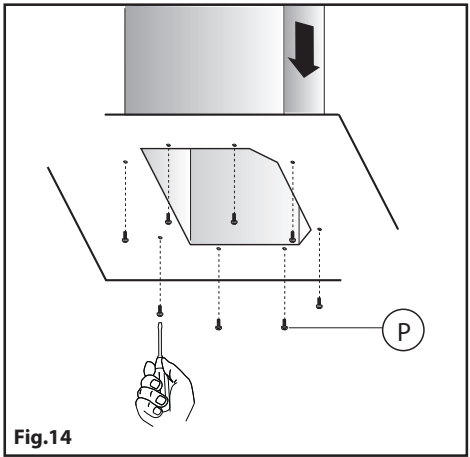

Fig.14
- If necessary, fix the lower duct to the hood from the inside, using the screws **P** (**Fig. 14**).